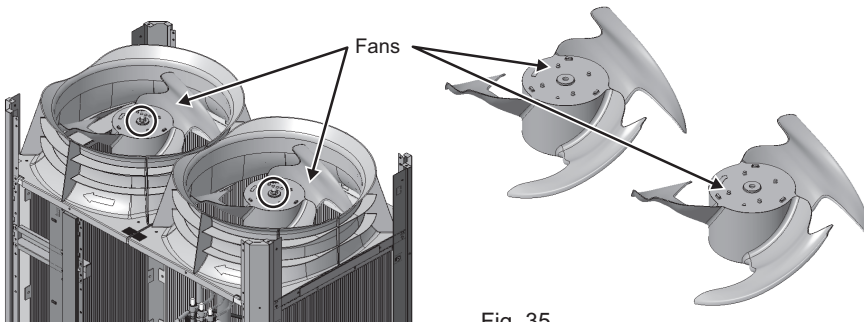

Fig. 35
- (7) Remove the fan. (Two nuts: Fig. 35)